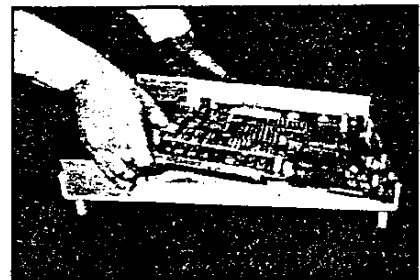
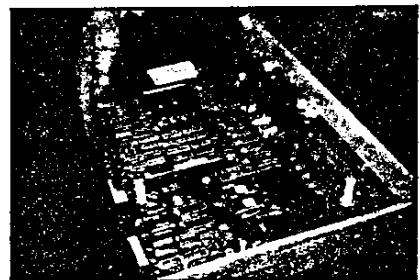

Fig. 3-2. Clearing the Right Side Connectors
Fig. 3-3. Rear Housing Insertion
3.2.2 Gently insert the PCB into the bottom case. To clear the mouse connector cut-outs, you will have to insert the board on an angle while gently holding the right-side bottom housing out. See Fig. 3-2. The rear panel housing must be inserted along with the PCB. While holding it in place over the rear connectors, slide it into its tracks, as shown in Fig. 3-3.